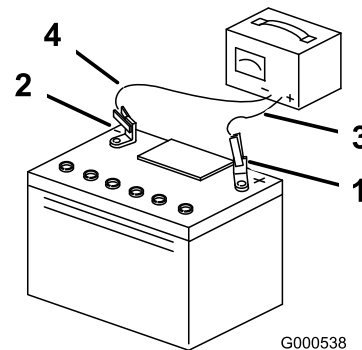

Figure 43
3. When the battery is fully charged, unplug the charger from the electrical outlet, then disconnect the charger leads from the battery posts (Figure 43).